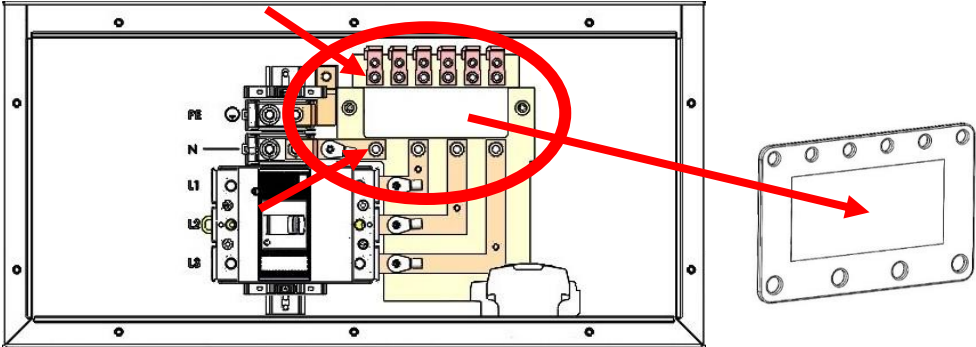

Figure 29 - M6 and M8 socket head cap screws must be removed to remove plastic spacer plate
3. Locate the Bus Bar on the back wall of charger with a plastic spacer plate mounted (Figure 29).
4. Remove the six M6 and four M8 socket head cap screws that secure plastic spacer plate to the Bus Bar (Figure 29), remove spacer plate from the Bus Bar, and discard spacer plate.